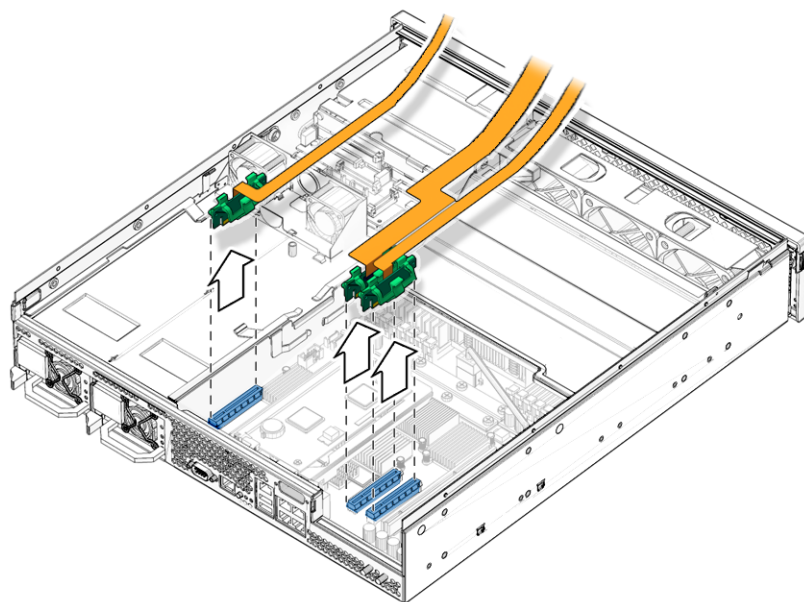

FIGURE 2-7 Disconnecting the PCI Cables
4. Disconnect the PCI cables at connectors J2201, J2202, and J2100 on the motherboard assembly (FIGURE 2-7).